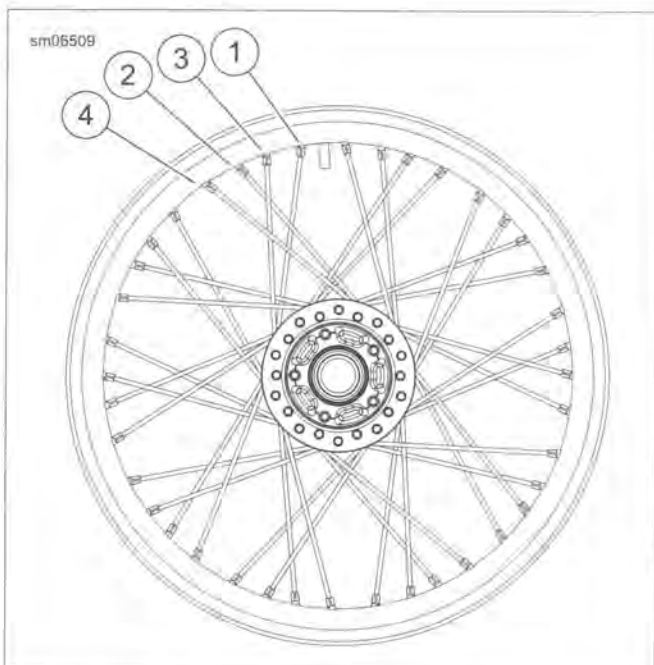

Figure 2-37. Flat Flange Hub, Dual Row
- See Figure 2-37. Beginning with the 1st hole counterclockwise (1) from valve stem hole, install lower flange outer spokes (short head) in every 4th hole. Loosely install spoke nipples.
- See Figure 2-37. Beginning with the 2nd hole counterclockwise (3) from valve stem hole, install upper flange inner spokes (long head) in every 4th hole.
- Rotate outer spokes (short head) counterclockwise. Install in the remaining holes (4) in the rim.